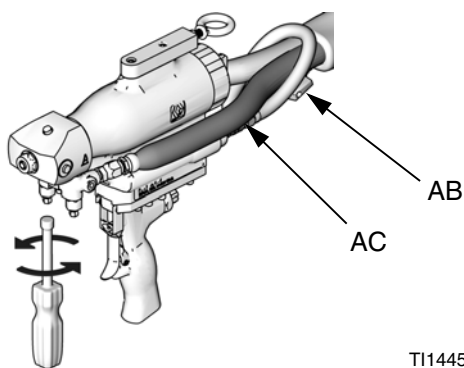

FIG. 12
5. Disconnect air quick coupler (AC). See FIG. 12.